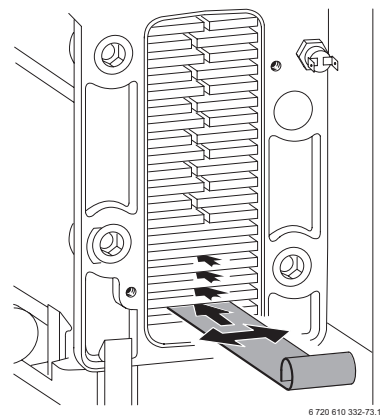

Fig. 49
- Loosen any deposits in the heat exchanger from top to bottom using the cleaning blade. Refer to fig. 49.